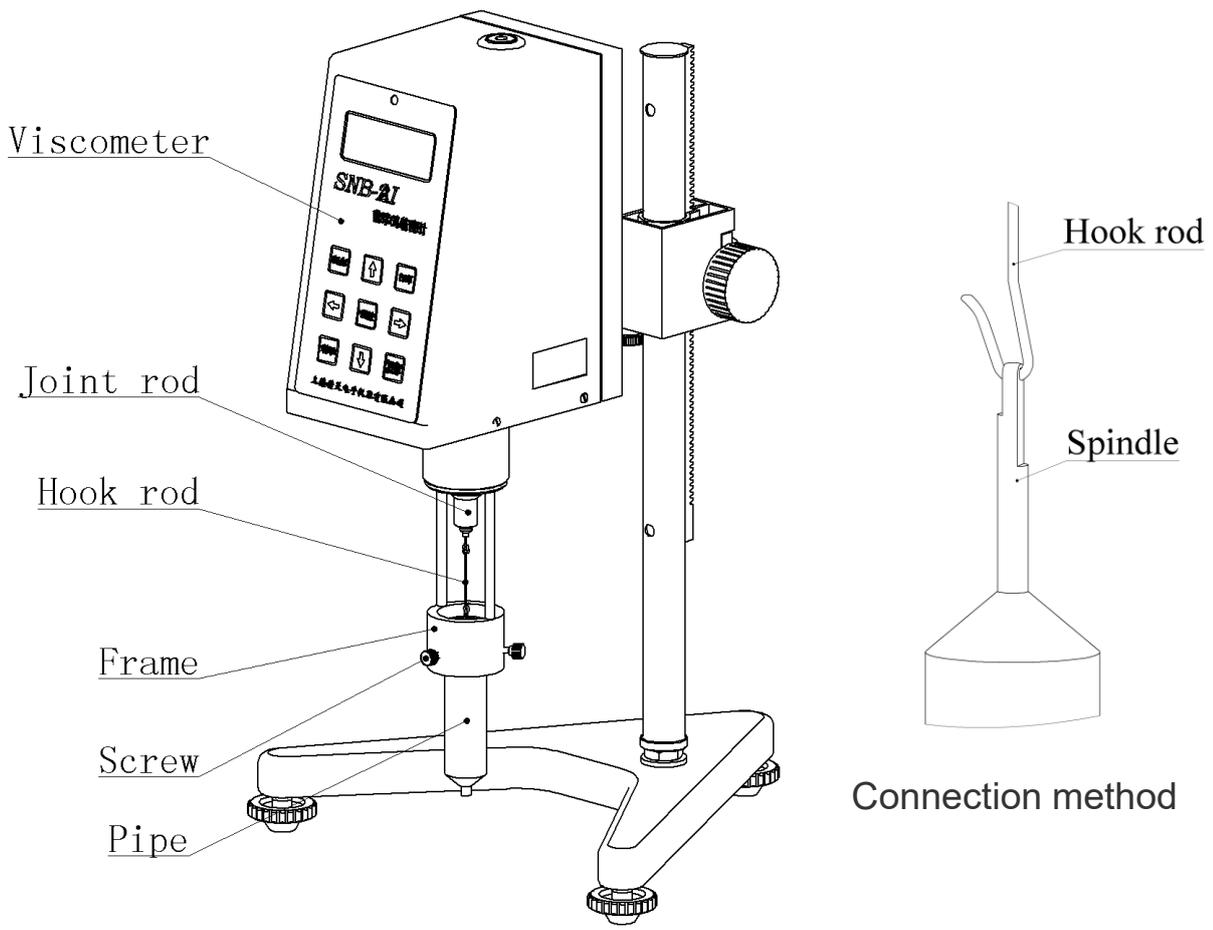

Figure 2
4.5 This system has two kinds of sample measurement, a method of assembly as shown in Figure 2, mainly used for measuring the liquid material at room temperature (Convenient with the use of other low constant temperature equipment); Another method as shown in Figure 4, is mainly used for measuring be solid at room temperature, high temperature heated into liquid substances.
4.5.1 According to figure 2 assembly.
4.5.1.2 The spindle is installed in the hook (short), in order to minimize the measurement error, assembly hook and the spindle must be shown in Figure 2 (right).
4.5.2.3 The spindle is installed in the hook (long), in order to minimize the measurement error, assembly hook and the spindle must be shown in Figure 2 (right).